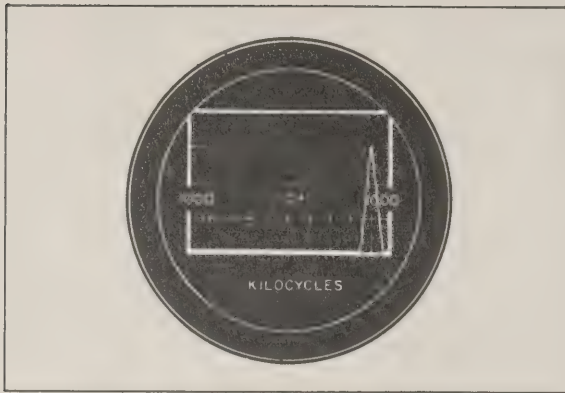

Figure III-1. Determination of Frequency.
f. The method of determining the frequency of any pip is best illustrated with an example. Suppose, for instance, a pip appears at the fourth calibration line to the right of the zero (as shown in Figure III-1), and the receiver is tuned to 4310 kc. If the SWEEP WIDTH FACTOR control is set to maximum, each vertical calibration line will be equivalent to a 200-kc separation. The pip will therefore represent a signal 4×200 kc or 800 kc above 4310 kc - which is 5110 kc.
Since the receiver i-f is 30 mc, a signal of 30.8 mc would represent a frequency of 800 kc above* center frequency. Thus, a pip on the fourth calibration line to the right of the zero center (as in Figure III-1) represents a frequency 800 kc above the one to which the companion receiver is tuned.**